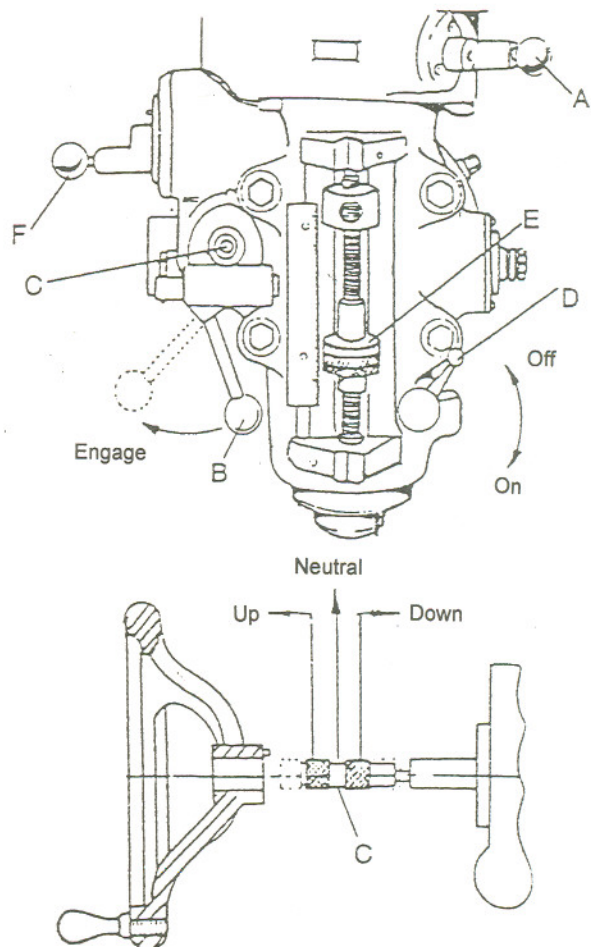

Fig. 7
To change from high to low speed range, move lever (D, Fig. 7) by pressing in and rotating almost 180°. Lever will stay in place once pressure is released.
1. Disengage automatic feed by pulling out knob (A, Fig. 7) and moving lever to the right hole.
2. Locate the feed reversing knob (C, Fig. 7) in the center or neutral position.
3. Engage feed trip lever (B, Fig. 7) by pulling away from head assembly.